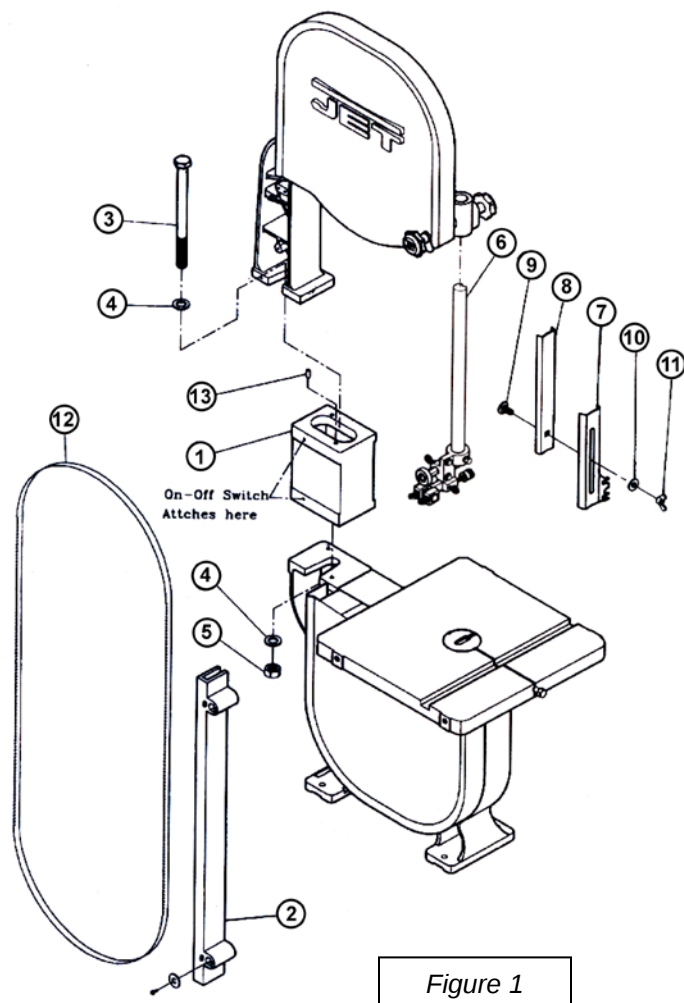

Figure 1
- 7. Fasten new blade guard assembly (Item #2, Fig. 1) to the saw arm and saw body.
14. Fasten the new blade guard assembly (Item #7-11, Fig. 1) to the upper blade guide bracket. **Note:** Always adjust the blade guard assembly to cover the blade completely whenever the guide post height is changed.